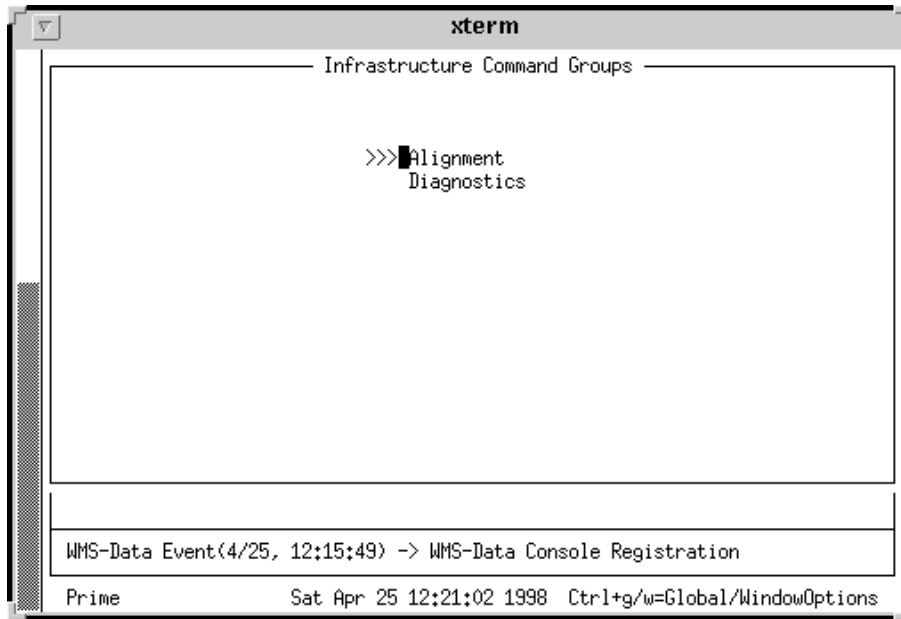

Figure 2-9: Infrastructure Commands Groups Menu—Site Operator Level
5. The Infrastructure Commands Groups menu appears (see Figure 2-9).